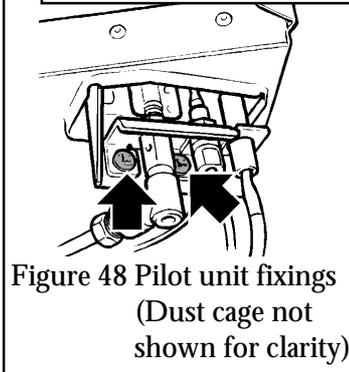

Figure 48 Pilot unit fixings
15.3.8 Remove the first screw securing the dust cage to the pilot unit/burner (see figure. 48). Carefully remove the dust cage and place aside.